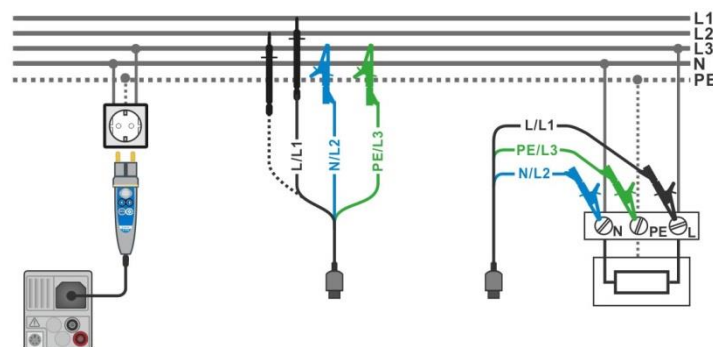

Figure 7.39: Phase-neutral or phase-phase line impedance measurement – connection of Plug commander and 3-wire test lead
- › Connect test leads or Plug commander to the object under test, see **Figure 7.39**.